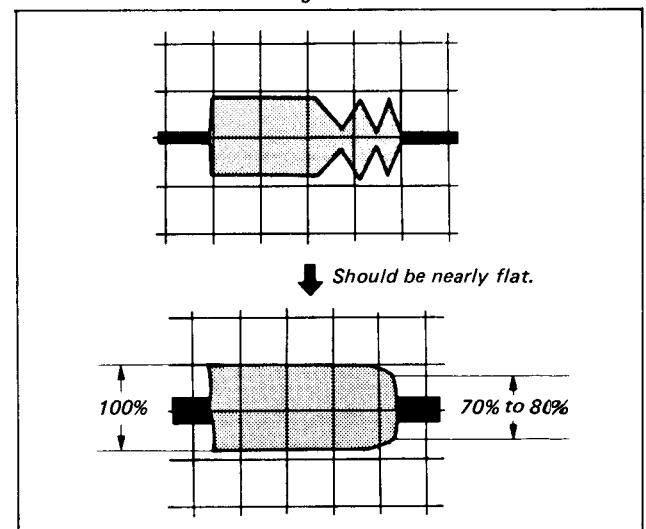

Fig. 1-80
- 3) Rotate No. 5 guide counterclockwise to make the RF waveform on the outlet side nearly flat. (See Fig. 1-80.)